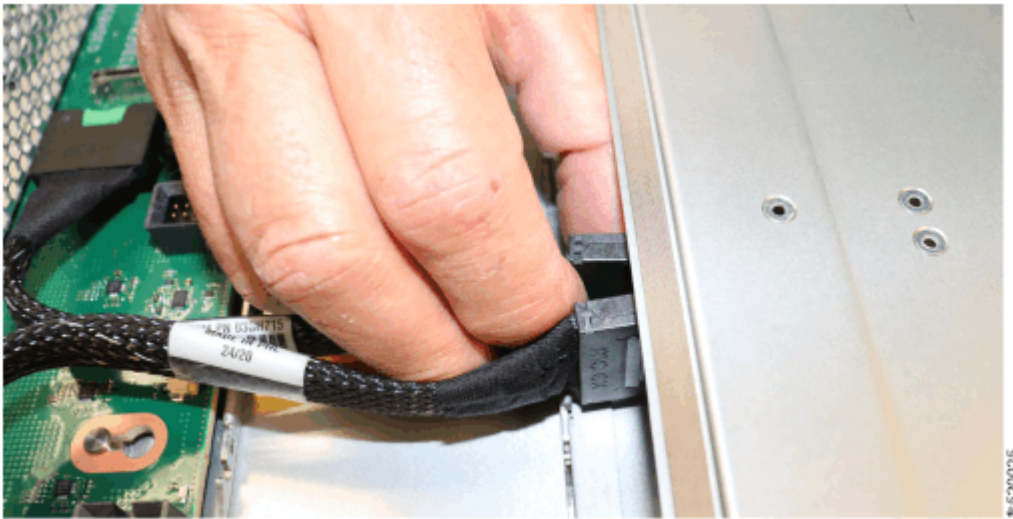

Figure 80. Disconnecting a high-speed data cable
11. To disconnect the six high-speed data cables from the drive midplane, press the latches on the outer sides of each connector to release the connector, as shown in Figure 80 on page 139